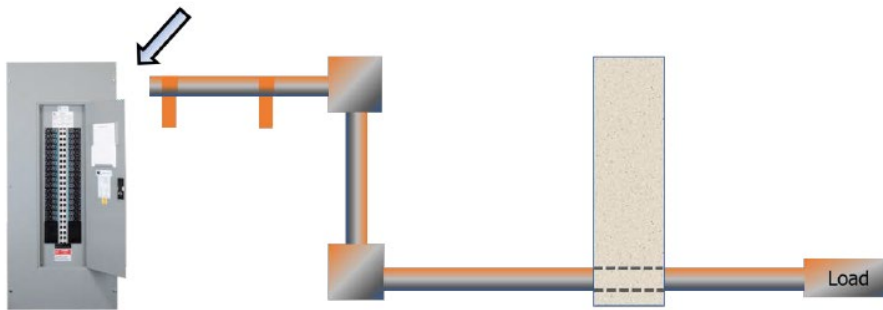

Figure 1 Air Gapping
4. Conduit and equipment to be demolished will be *air-gapped* at the source by SLAC electrical workers. (See Figure 1.)